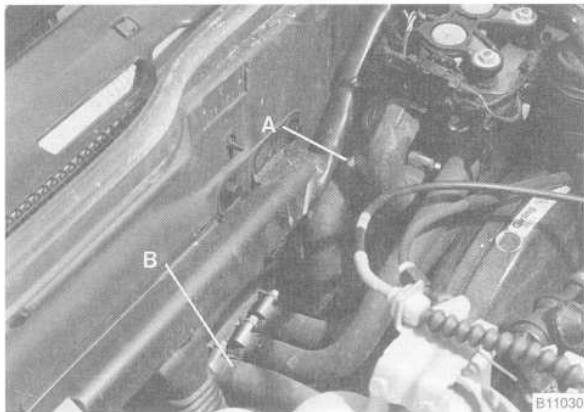

Fig. 24. Heater hoses at heater valve (A) and heater core (B).
- Disconnect the heater hoses from the heater valve and heater core. See Fig. 24.